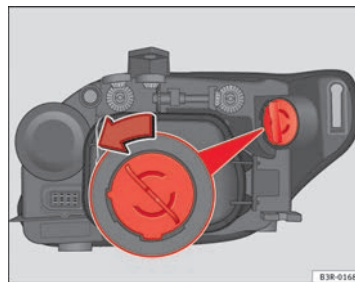

Fig. 190 Turn signal
- Turn the bulb holder anti-clockwise, pulling it by the grip ⇒ fig. 190 and removing the bulb holder and the bulb.